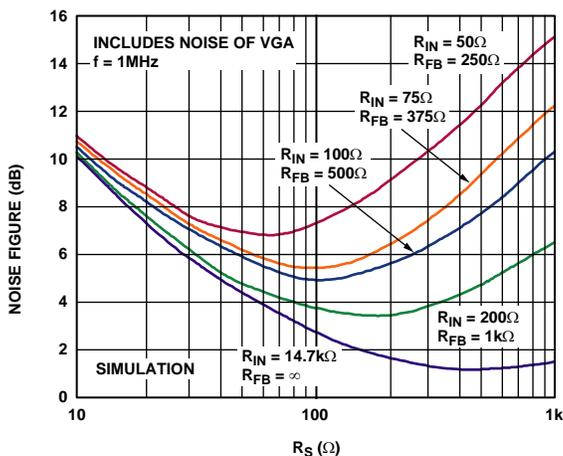

Figure 56. Simulated Noise Figure vs. R_S for Various Fixed Values of R_{IN} , Actively Matched
Figure 56 shows the simulated noise figure (NF) vs. source resistance, and various values of preamplifier R_{IN} from $50\ \Omega$, to $14.7\ \text{k}\Omega$, the value seen looking into Pins PIPx when $R_{FB} = \infty$. As shown in the figure, the minimum NF for $R_{IN} = 50\ \Omega$ is slightly less than 7 dB. Note that, for this preamplifier, the NF is optimized for the R_{IN} from $50\ \Omega$ to $200\ \Omega$; for $R_{FB} = \infty$, the minimum NF is at approximately $480\ \Omega$. This optimum noise resistance can also be calculated by dividing the input referred voltage noise by the current noise.